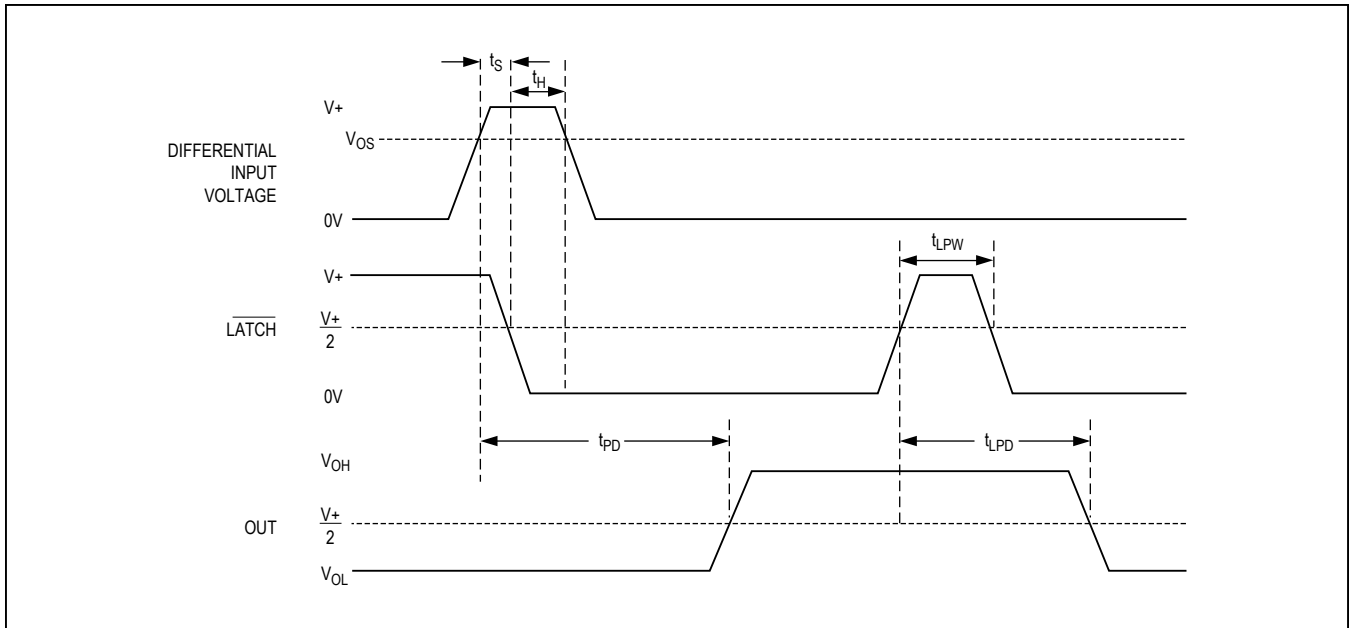

Figure 2. MAX941 Timing Diagram with Latch Operator
- Note 8:** Parameter is guaranteed by design and specified with VOD = 5mV and CLOAD = 15pF in parallel with 400μA of sink or source current. VOS is added to the overdrive voltage for low values of overdrive (see Figure 2).
- Note 12:** Applies to the MAX941 only. Comparator is active with LATCH pin driven high and is latched with LATCH pin driven low (see Figure 2).
The MAX941 includes an internal latch that allows storage of comparison results. The LATCH pin has a high input impedance. If LATCH is high, the latch is transparent (i.e., the comparator operates as though the latch is not present). The comparator's output state is stored when LATCH is pulled low. All timing constraints must be met when using the latch function (Figure 2).